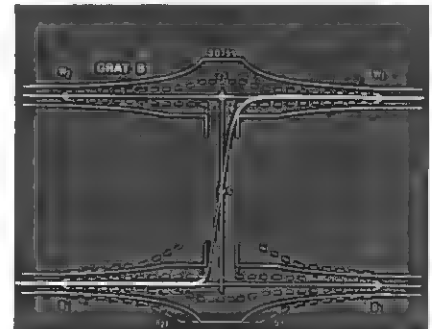

Figure 6. S.D. using 2T pulse rising transient, S.D. $\approx 2\%$.
IEEE Trial Standard 511-1974 describes the technique for measuring short time waveform distortion (SD) in detail. Graticule B includes the mask prescribed in the Trial Standard. The 1480's POSITION controls are adjusted so that the transition passes through points B (blanking) and C, and the vertical gain is set so that white level of the bar passes through point W. Some control interaction will take place. Using the 200 nsec/div time base, an undistorted 1T transition will lie perfectly centered in the mask. See Figure 6.